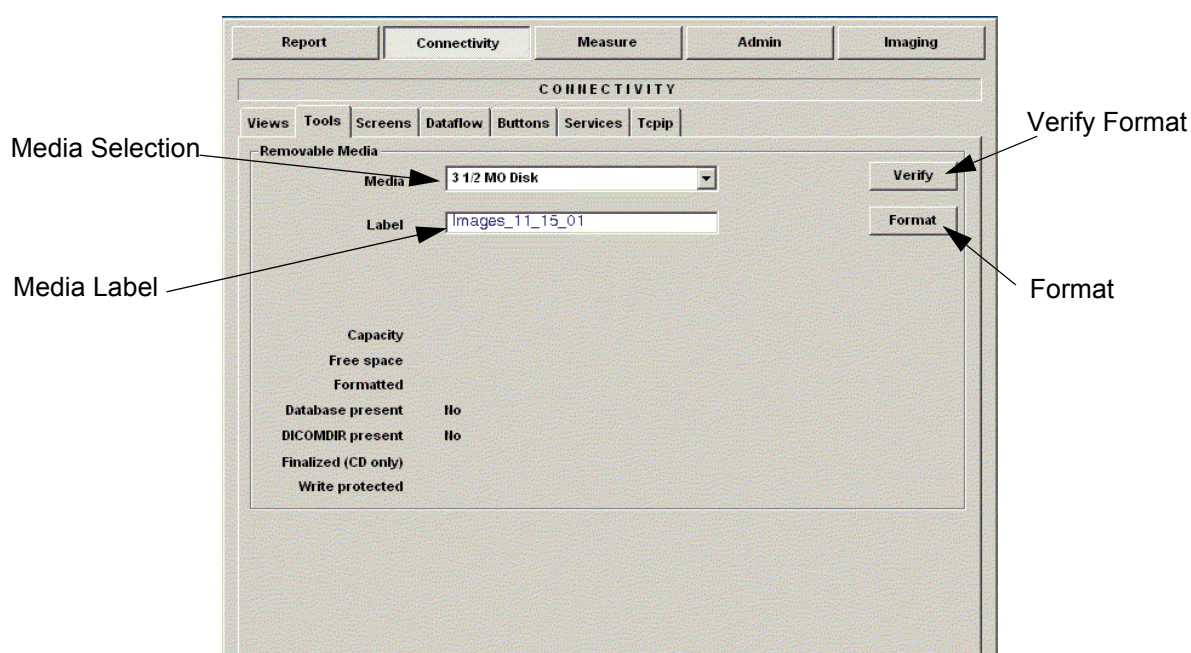

Figure 4-31 Format and Verify Media
- 4.) Enter the label for the media as shown in Figure 4-31. It is best to use all capital letters with no spaces or punctuation marks.
- 6.) If desired, verify that the format was successful by returning to *Utility>Connectivity>Tools* and selecting VERIFY as shown in Figure 4-31.